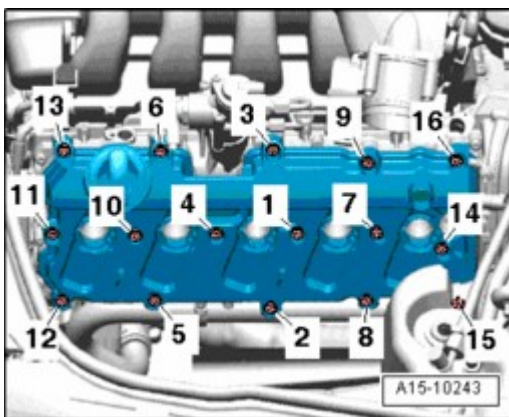

Fig. 291: Identifying Bolts Removal Sequence
- Note tightening sequence --> **Fig. 291**